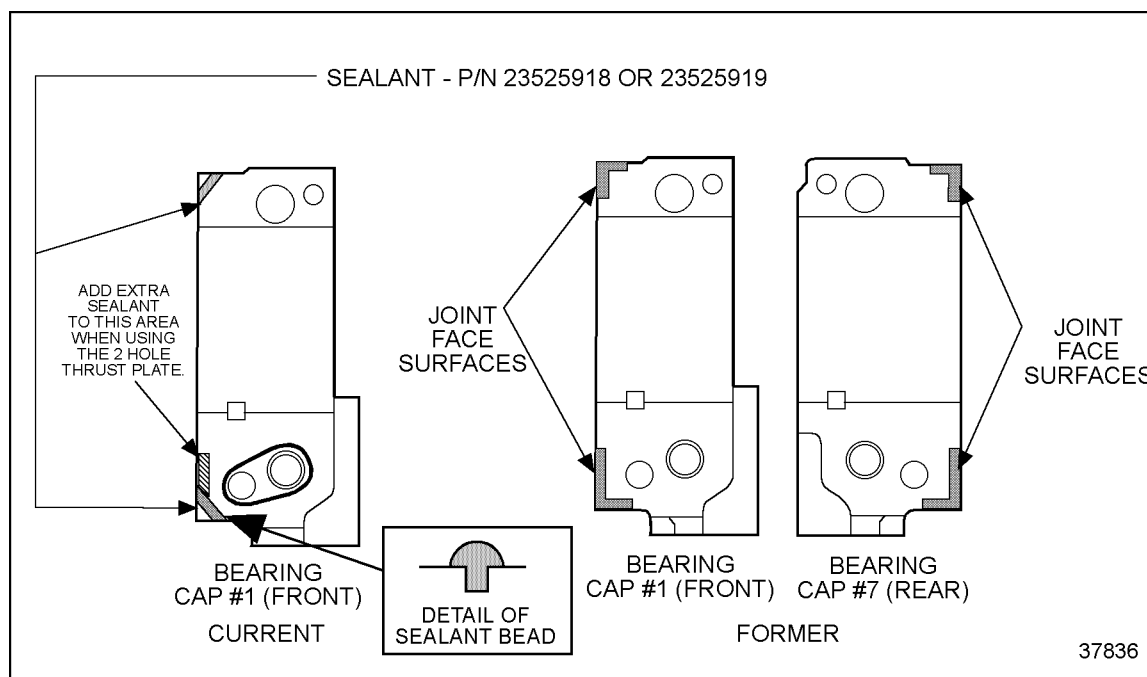

Figure 1-361 Gasket Eliminator Application
11. Apply a continuous 1.6 mm (1/16 in.) bead of DDC gasket eliminator part number 23523064, or equivalent, to the joint face surfaces of the No. 1 and 7 camshaft caps. The bead must extend to the front edge of both caps. See Figure 1-361.